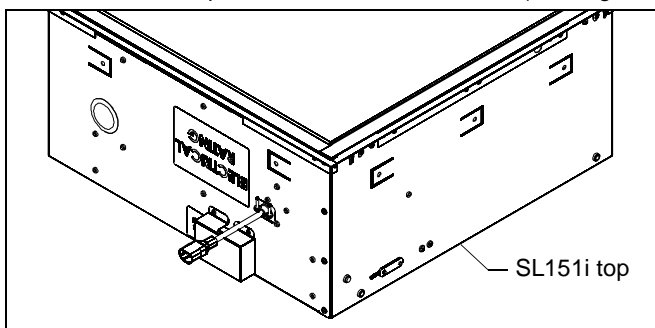

Figure 1
2. Place SL151i upside down on clean surface. (See Figure 1)